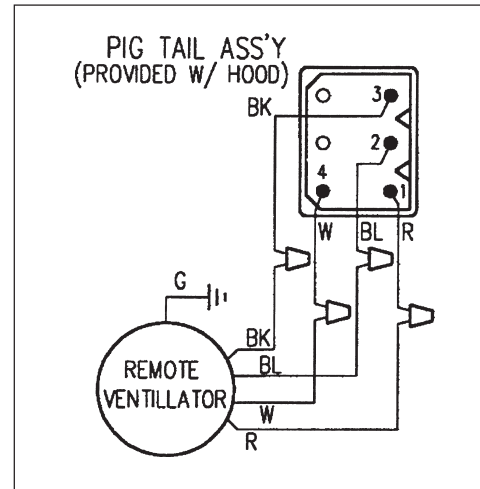

Figure 14
4. Connect the power supply wires to the hood wires in the following order: black to black, white to white, and **green wire** to green ground screw on **chassis**. Use spring type wire nuts supplied. (Lost or missing wire nuts should only be replaced with: Spring type wire nuts, rated for a minimum of (2) # 18ga wires and maximum of (4) #14ga wires, UL & CSA rated to 600V and 302 deg. F./150 deg. C).
7. Connect the remote ventilator to the pigtail wires (Step 6) as per Figure 14. Connect the remote blower green (ground) wire to the ground screw in the junction box.